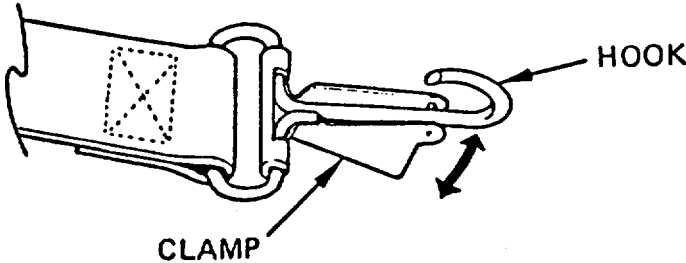

FIGURE 3-5. Securing Clamp
- 2. Locate the securing clamp around each of the two hooks. On each of the hooks, push the pointed end of the clamp back with your thumb to reveal the exposed hook (refer to Figure 3-5). Connect the two hooks to the web belt. Secure the Torso Harness to the belt by pushing the securing clamp back over the hook.